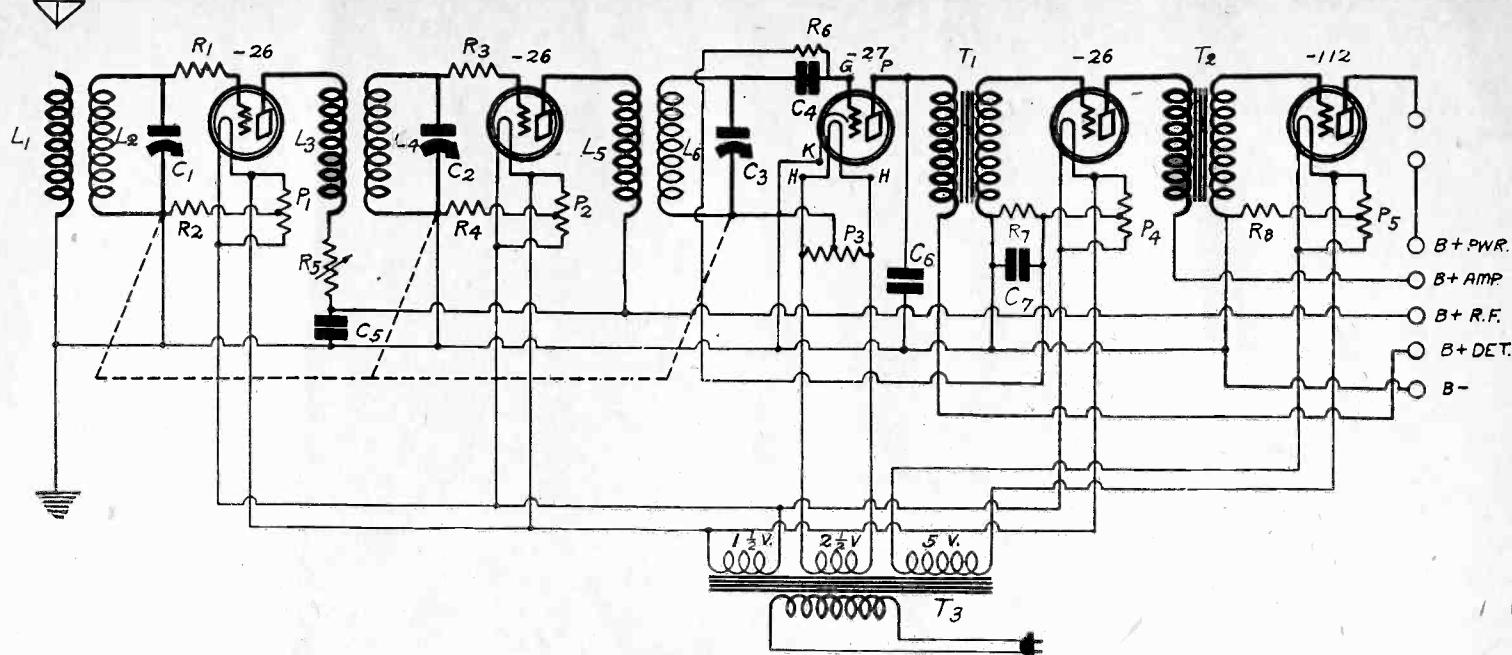

FIG. 701
(3)—The explanation of the bias resistor connections is best given by a diagram. See Fig. 701.